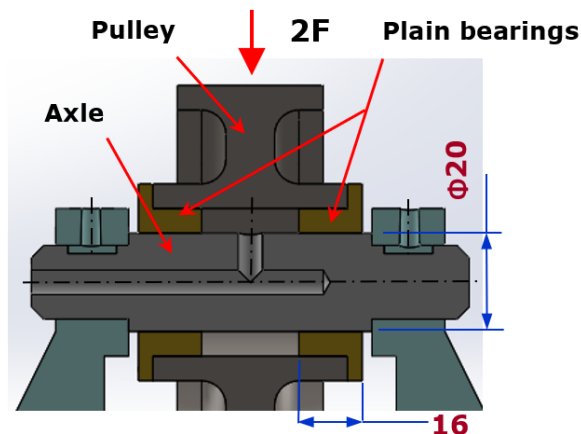

Figure Q1-2
- (c) Figure Q1-2 shows a pair of oil-impregnated bronze plain (sliding) bearings press fitted with a rotating pulley at a speed of $n = 800$ rpm. The pulley is subjected to a total radial load of $2F = 1800$ N. The axle is stationary. The dimensions of the plain bearings are shown in the figure. The diametrical clearance between the plain bearing and the axle is $C = 0.02$ mm at the time of installation.